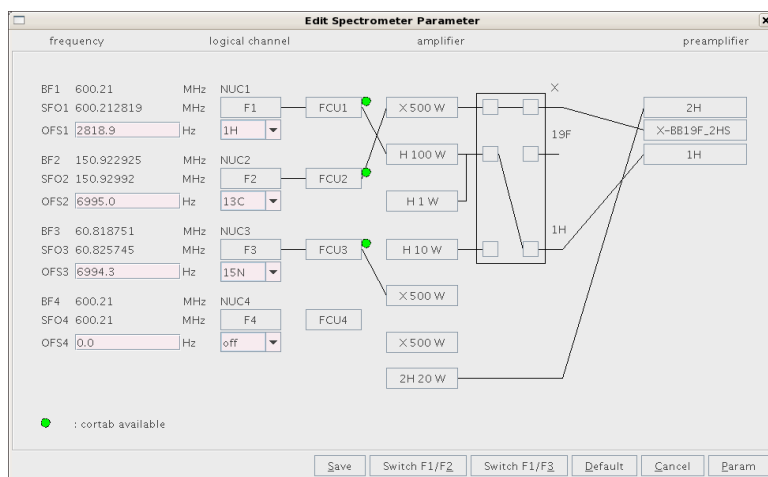

Figure 8: Standard routing for triple resonance experiments on 601.
- Select ^{13}C for NUC2 and ^{15}N for NUC3, which should reconnect the routing to the standard configuration shown in Figure 8.